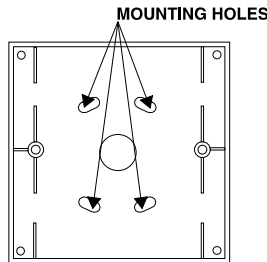

Figure 2. Mounting Hole Locations
- 1) Place the back box on a wall in the desired location and mark the 4 mounting holes (see Figure 2).